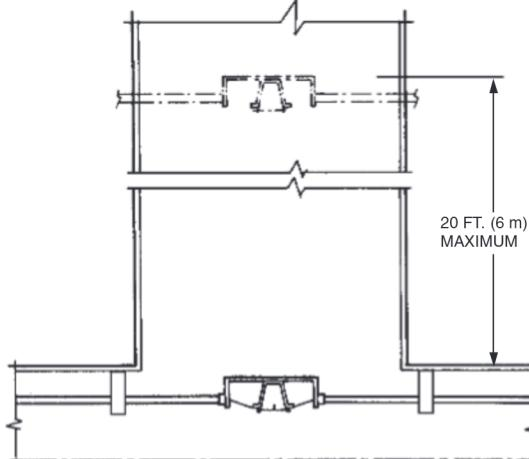

FIGURE 98
- a maximum of 20 ft. (6.1 m) into the duct opening. See Figure 98.